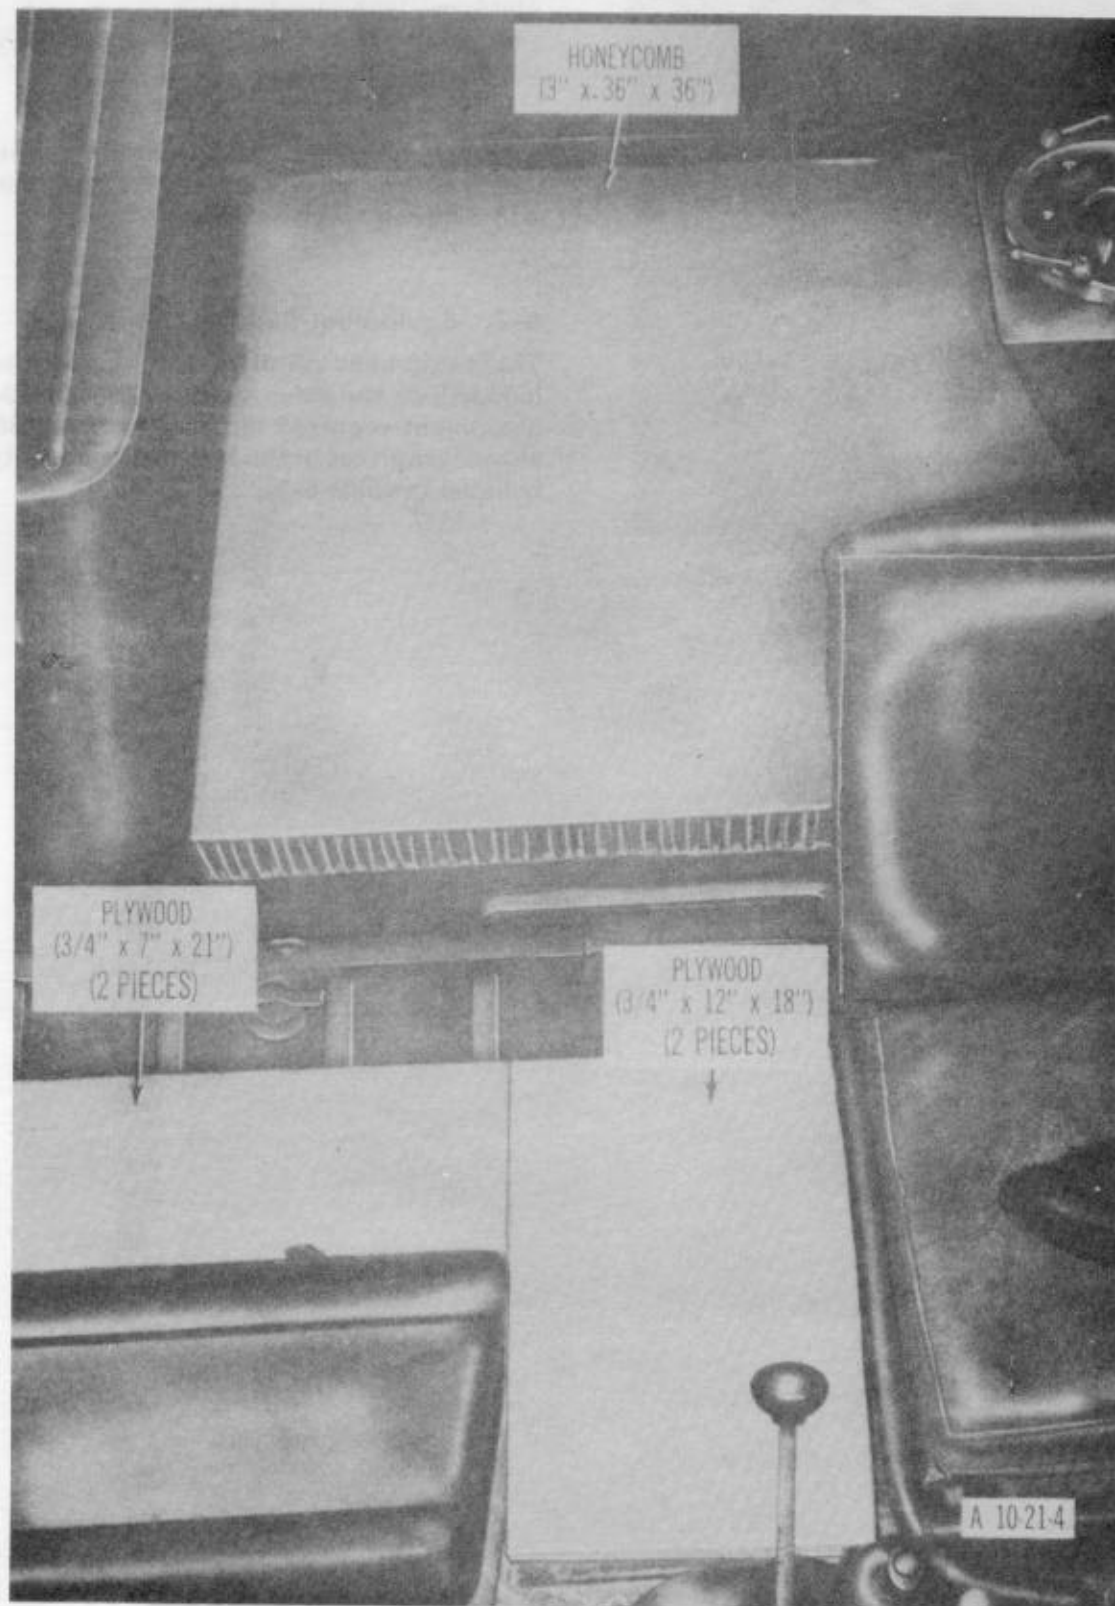

Figure 6-3. Honeycomb positioned over auxiliary feet in bed of truck and plywood positioned around battery box.
a. Stowing Auxiliary Feet. Position the three auxiliary feet in the bed of the truck (fig 6-2). Position a 3- by 36- by 36-inch piece of honeycomb on top of the auxiliary feet as shown in figure 6-3.
b. Positioning Honeycomb and Plywood in Truck. Position two ¾- by 12- by 18-inch layers of plywood and two ¾- by 7- by 21-inch layers of plywood around battery box as shown in figure 6-3. Position one 3- by 12- by 18-inch layer of